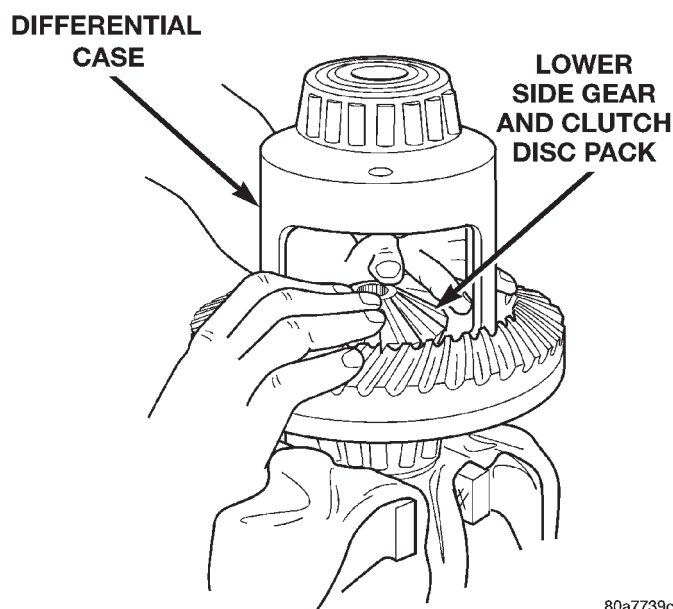

Fig. 50 Clutch Discs & Lower Side Gear Installation
(2) Position assembled clutch disc packs on the side gear hubs.
(3) Install clutch pack and side gear in the ring gear side of the differential case (Fig. 50). **Be sure clutch pack retaining clips remain in position and are seated in the case pockets.**